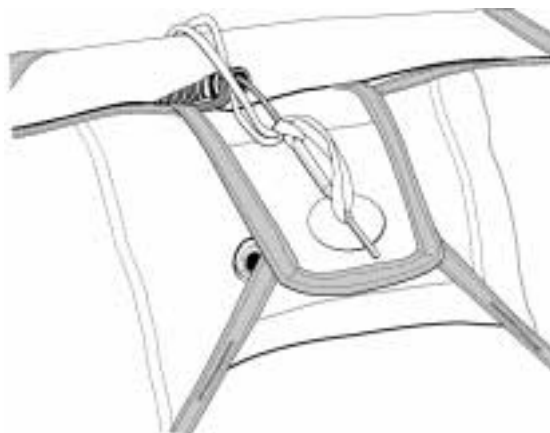

Figure 30. Routing of Pull-Up Cord
a. Without removing pull-up cord, secure to ripcord cable with 3-4 half-hitches. This will reduce the chance of the ripcord pin being fully removed during the ripcord pin pull force checks (Figure 30).